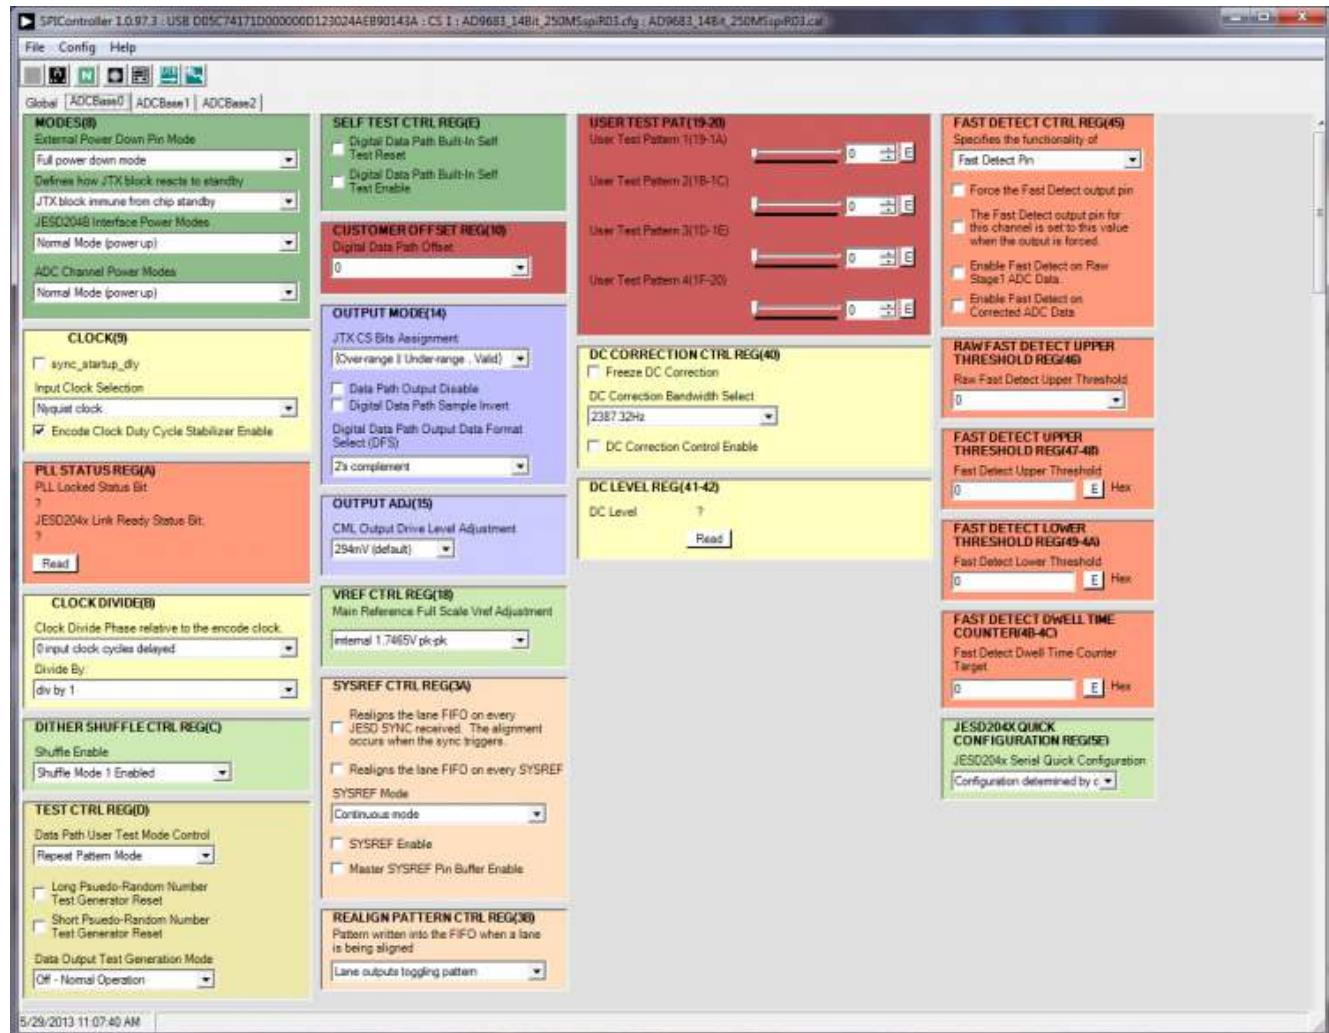
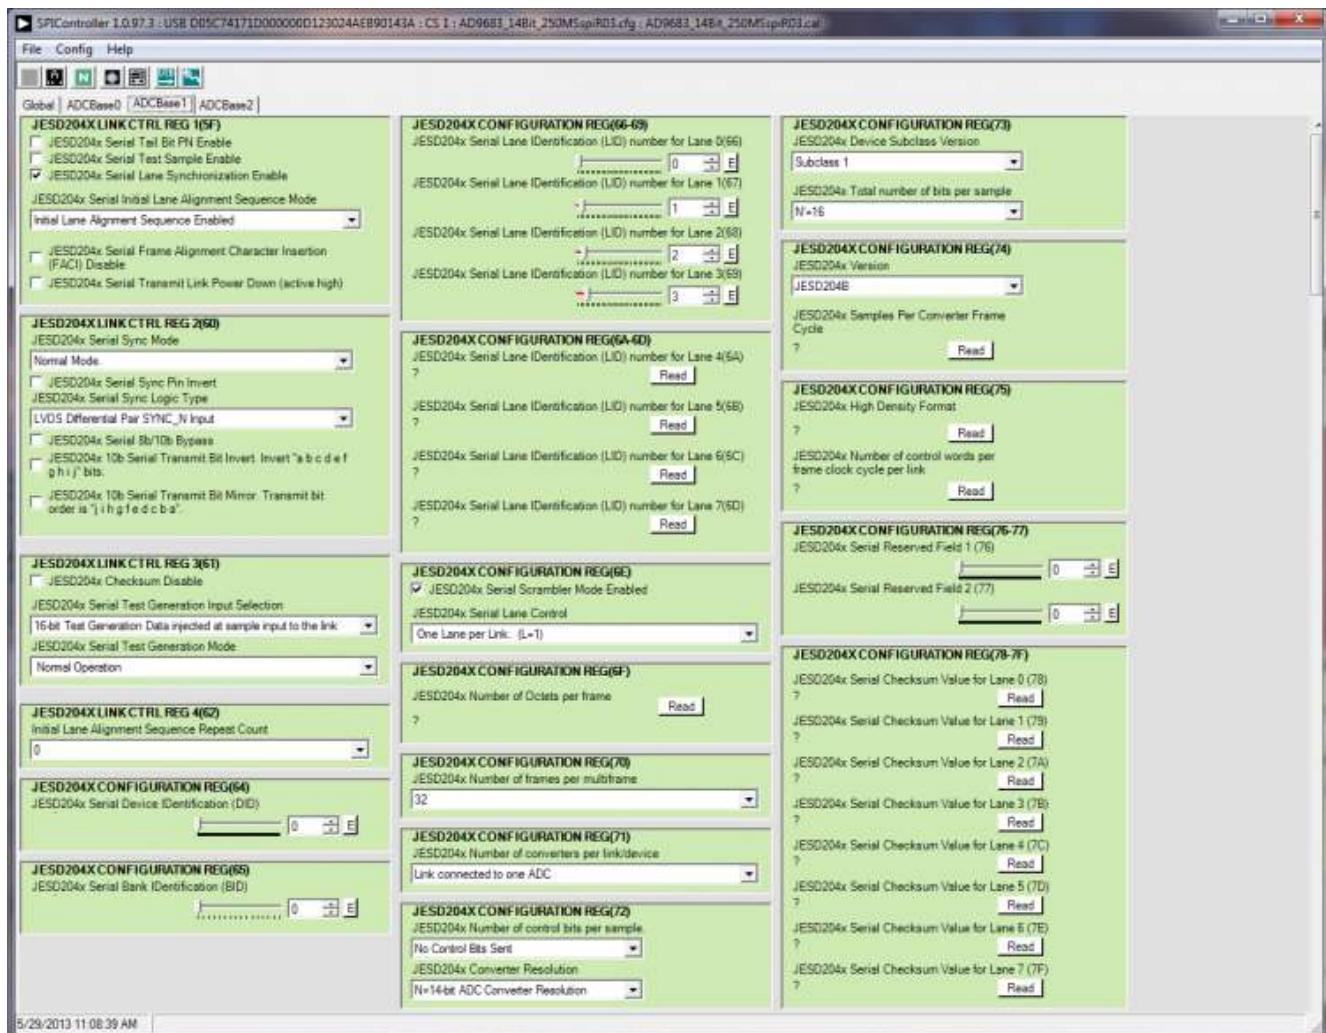

Figure 10. SPI Controller, ADCBase0
Figure 11. SPI Controller, Example ADCBase1 Page
3. In the **ADCBase 0** tab of the **SPIController** window, find the **CLOCK DIVIDE(B)** box (see Figure 10). If using the clock divider, use the drop-down box to select the correct clock divide ratio, if necessary. The Nyquist Clock is selected by default. If using the RF Clock, make sure to configure the device in this tab. For additional information, refer to the data sheet, the AN-878 Application Note, High Speed ADC SPI Control Software, and the AN-877 Application Note, Interfacing to High Speed ADCs via SPI.
4. Note that other settings can be changed on the **ADCBase0** tab (see Figure 10) and the **ADCBase1** and **ADCBase2** tabs (see Figures 11 and 12) to set up the part in the desired mode. The **ADCBase0** tab settings affect ADC settings, whereas the settings on the **ADCBase1** and **ADCBase2** tabs affect the JESD204B link settings. See the appropriate part data sheet, the AN-878 Application Note, High Speed ADC SPI Control Software, and the AN-877 Application Note, Interfacing to High Speed ADCs via SPI, for additional information on the available settings.
If the FFT window remains blank after **Run** in VisualAnalog (see Figure 11) is clicked, do the following: